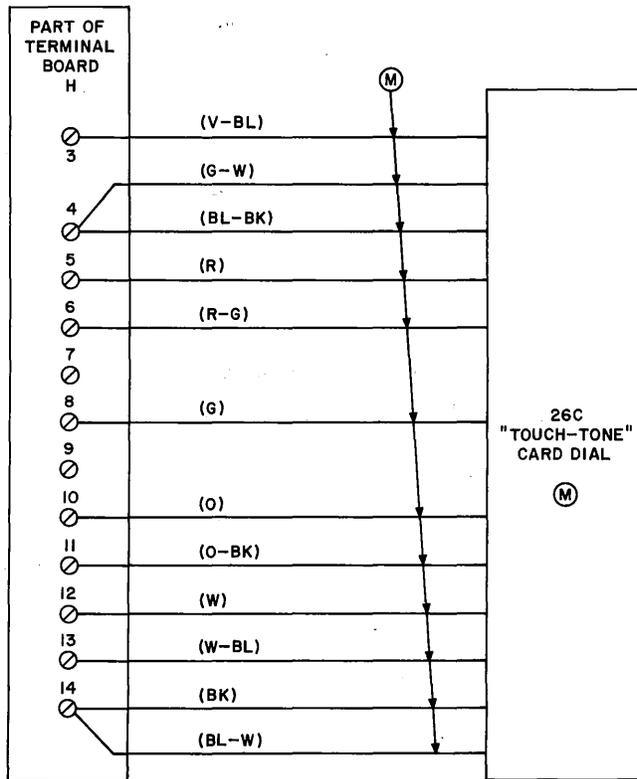

Fig. 3—Connections for TOUCH-TONE Card Dialer
within the TTY portion of the data station. Table B lists connections for options provided by this method. Options requiring additional equipment changes are shown in Fig. 3 through 9 and are also listed in Table B. The required options for each installation should be specified on the service order or work sheet.
3.02 A 25F1 TOUCH-TONE dial is furnished as standard equipment for the CONTROLMATIC. When a TOUCH-TONE card dialer is required, the 25F1 dial must be removed and replaced with a 26C card dialer (option M) which combines both manual and card TOUCH-TONE dials. Option M connections are shown in Fig. 3.